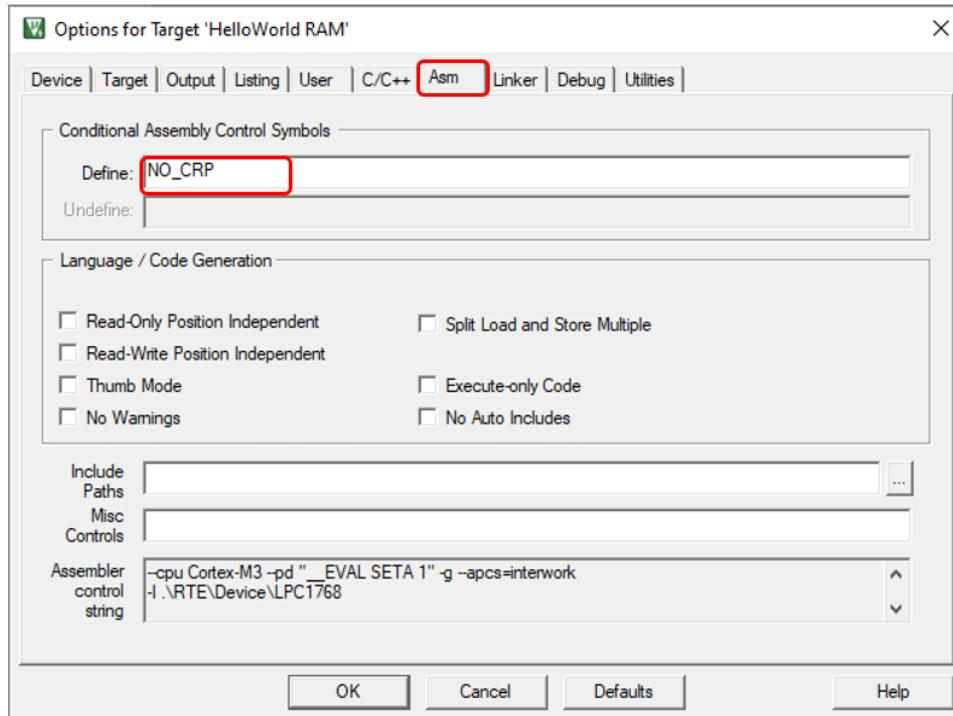

Figure 7.29: Keil IDE: RAM Target Asm Configuration.
4. Select the Asm tab and input NO_CRP in the Conditional Assembly Control Symbols section as shown in Figure 7.29.